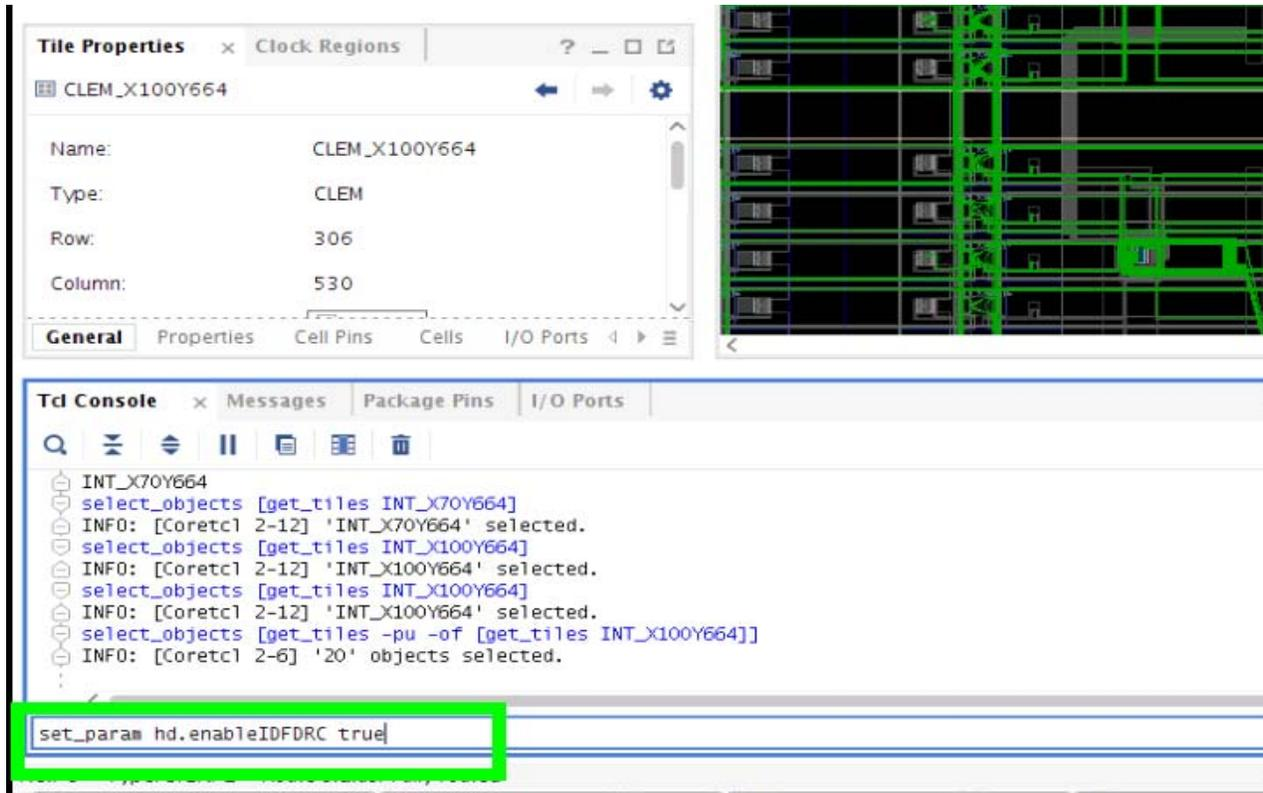

Figure 2: Enable IDF DRCs by Setting the `hd.enableIDFDRC` Parameter
- Go to the Vivado Tcl Console, and enter the following command at the lower portion of the window (see Figure 2):